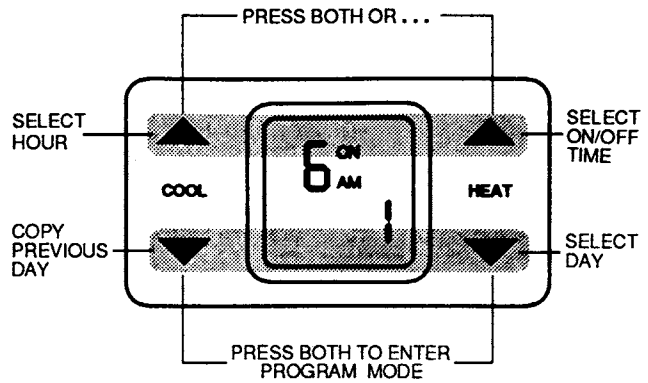

Fig. 10 — Enter Program Mode
1. Starting with normal Temp System operating display, enter the program mode by pressing either both set point increase buttons or both set point decrease buttons at the same time. The setback configuration will be shown. If there has been no previous program, the default settings will be shown. See Fig. 10.